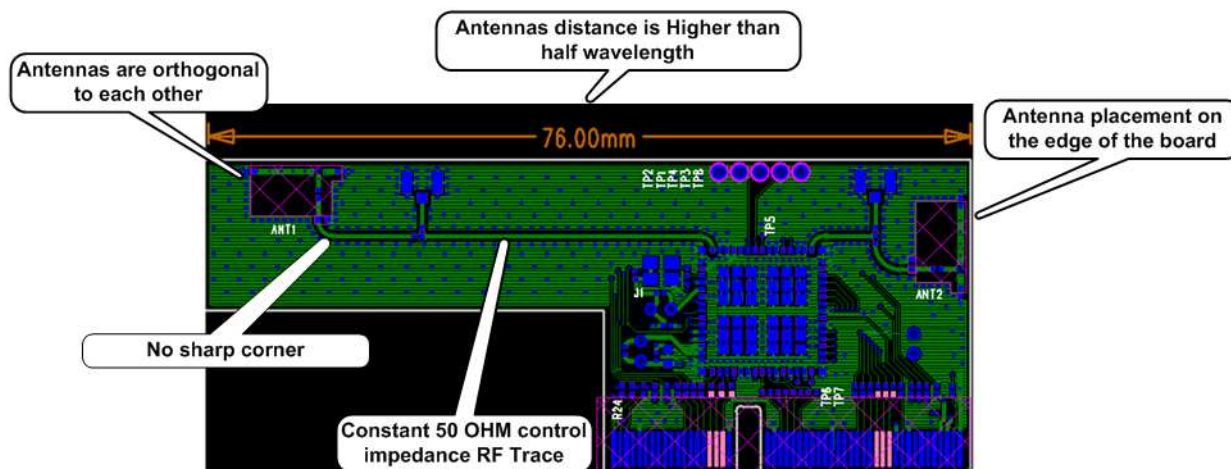

Figure 8-1. Location of Antenna and RF Trace Routing on the TMDXWL1835COM8T Board
Figure 8-1 shows the location of the antenna on the TMDXWL1835COM8T board as well as the RF trace routing from the (X)WL1835 module (TI reference design). The TDK chip multilayer antennas are mounted on the board with a specific layout and matching circuit for the radiation test conducted in FCC, CE, and IC certifications.